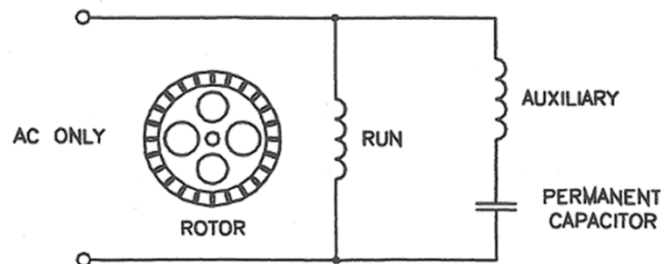

Figure 13 - Permanent capacitor motor connections.
38. A permanent capacitor motor has the same type of winding arrangement as a capacitor-start motor, but the 'start' winding is designed to remain permanently connected, as shown in Figure 13, so no centrifugal switch mechanism is required. Both windings are identical, and the 'start' winding is usually referred to as the auxiliary winding.